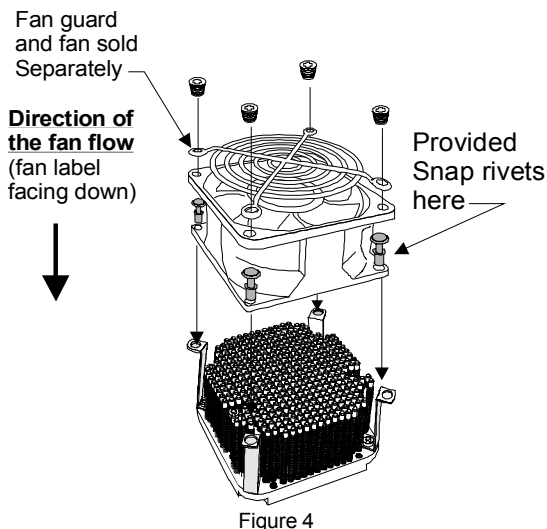

Figure 4
- ❑ Use provided snap-rivets as shown in fig. 4 to secure fan to heatsink.
- **Only use the provided euro-style wire connector** shown in fig 4 below. Connect red wire from TEC module to +12V of P/S (Yellow wire), and black wire to black wire: